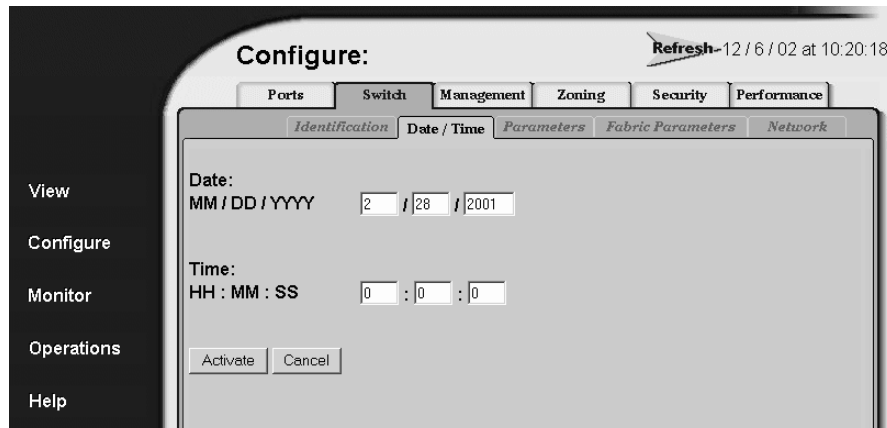

Figure 6: Configure date and time tab view
1. Choose **Configure** from the navigation panel. Choose the **Switch** or **Director** tab, as appropriate. Click the **Date/Time** tab to display the **Date/Time** tab view (Figure 6).